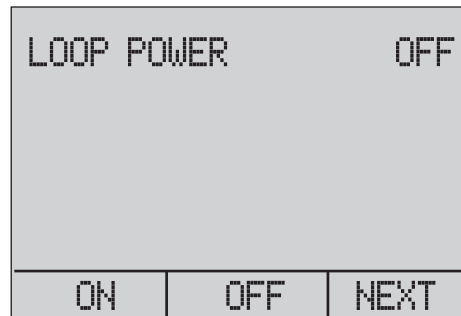

Figure 30. Loop Power Screen
- "LOOP POWER" can be toggled on or off. Select "NEXT" when done. See Figure 30.